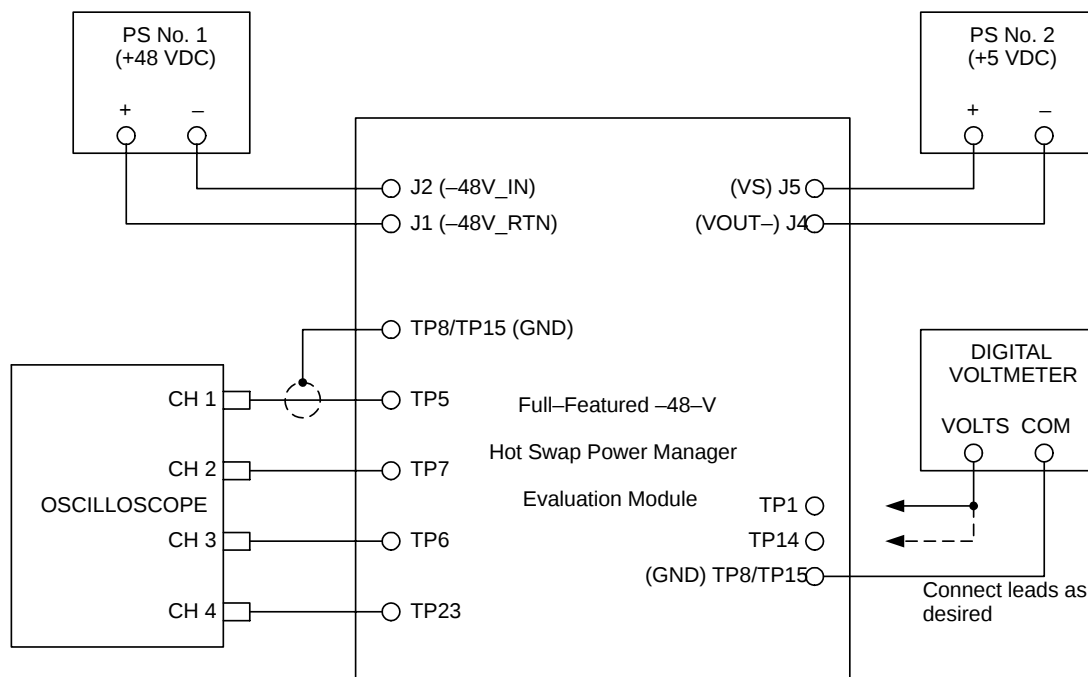

Figure 5. Full-Featured -48-V Hot Swap EVM Setup
Connect the EVM and test equipment as shown in Figure 5.
Supply connections to the EVM should be made as shown in Figure 5. The backplane, 48-V supply (power supply number 1 in Figure 5) connects to J1 and J2. The polarity of the circuit is such that the HI or (+) output of the supply connects to J1, –48V_RTN. The LO or (–) jack connects to J2, –48V_IN. PCB header J5 (VS) is used to connect an external pull-up source when using the EN1 and EN2 outputs of the module. This supply is referenced to the VOUT– node.
The EVM can be used to get an illustration of the relationship between current limit, inrush slew rate, load values, and the circuit's fault timing requirements. With DIP switch SW1–1 only closed, the fastest of the preset slew rates is selected, and only the hard-wired timing capacitor C6 is connected to the TPS2392 or TPS2393 controller. However, this is sufficient to allow the bulk capacitor C8 to fully charge, from 0 volts, across the full range of input supply voltages, down to –80 V. This can be observed by connecting input power as shown in Figure 5, displaying the VOUT– node on an oscilloscope, and enabling the device.